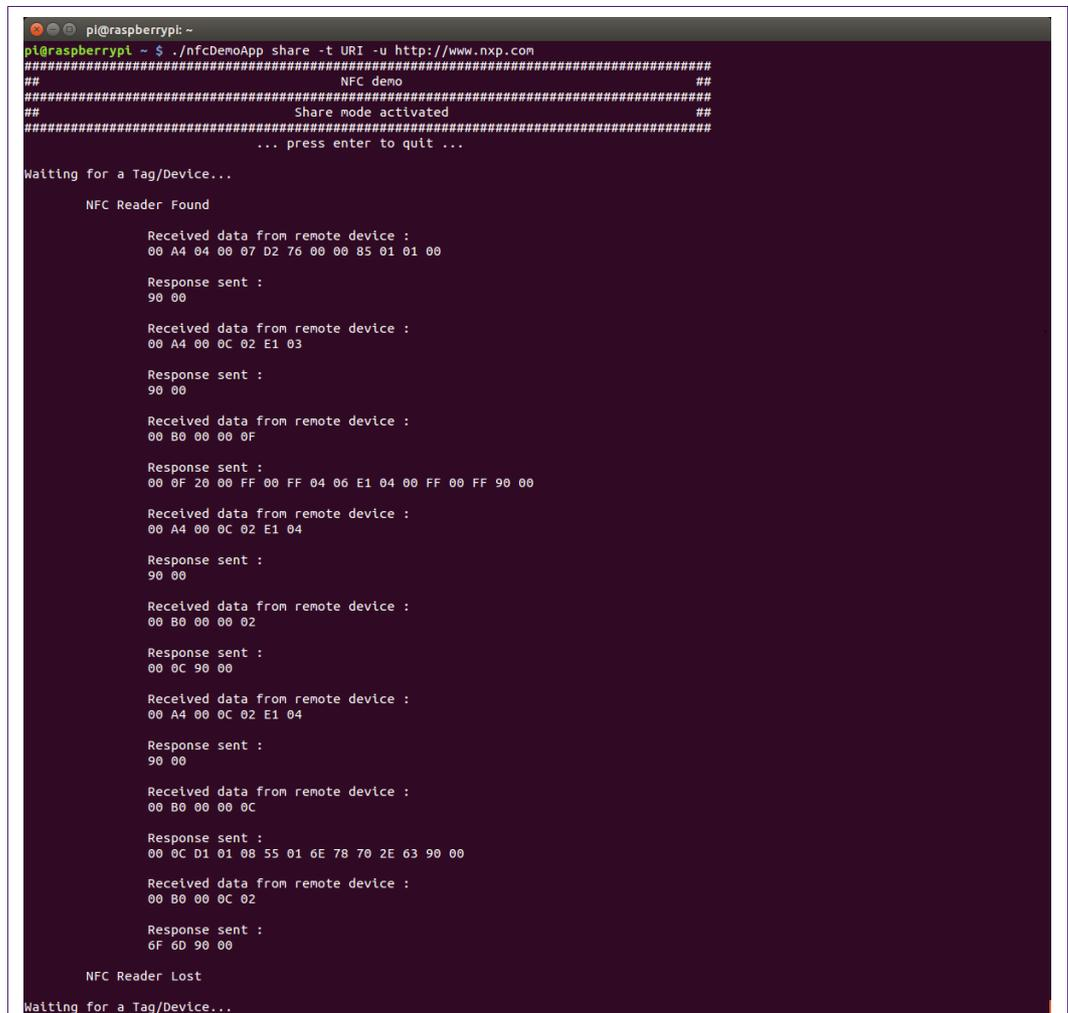

Fig 6. Linux demo application Tag emulation mode
- Fig 6. Linux demo application Tag emulation mode.. 16